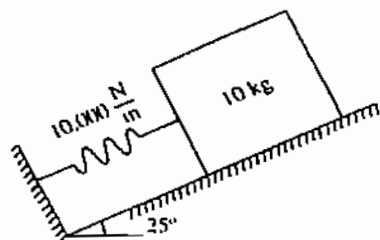

Figure-3
(b) In an experiment to find the coefficient of friction between two materials a 10 kg block was placed on an inclined plane and attached to the wall with a spring of stiffness 10000 N/m as shown in figure-3. Setting the block to motion by giving a prior displacement, the amplitude of vibration was seen to decrease by 1.5 mm per cycle. Find the coefficient of friction μ between the surfaces. (2)